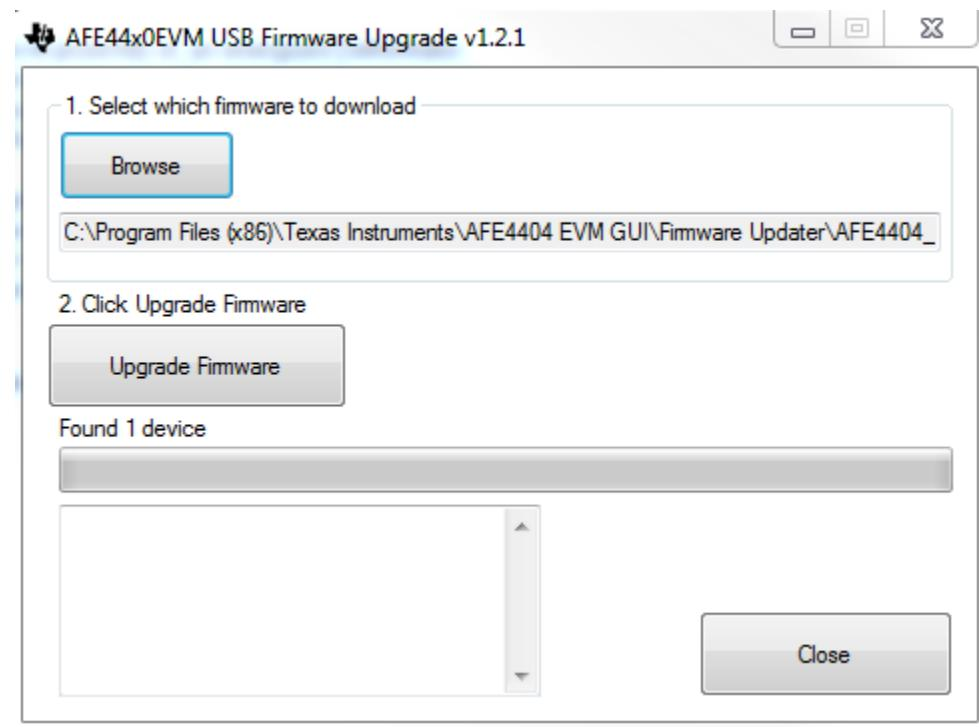

Figure 44. Firmware Loader Application: Found Device
4. Release the SW2 switch when the application displays *Found 1 device*. If the application does not detect the device and displays *No Device Connected*, then repeat step 3. Click on the *Upgrade Firmware* button (see Figure 44).